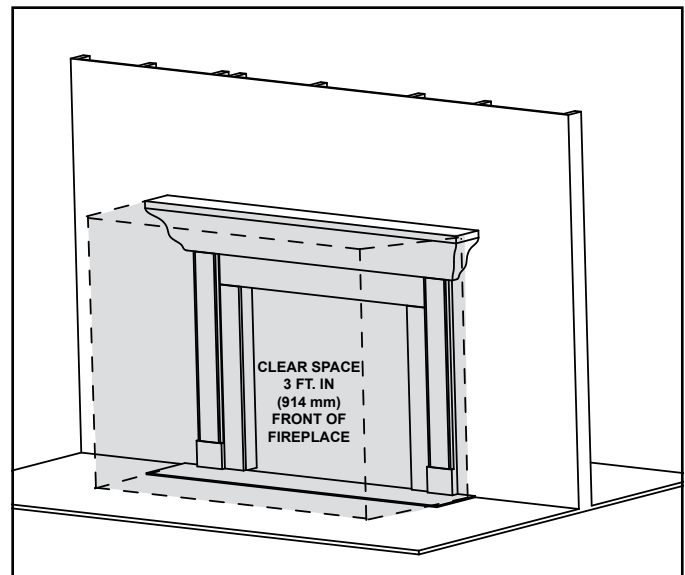

Figure 3.1 Clear Space Requirement - All Models
**WARNING! DO NOT place combustible objects in front of the fireplace or fireplace openings. High temperatures could start a fire. See Figure 3.1.**